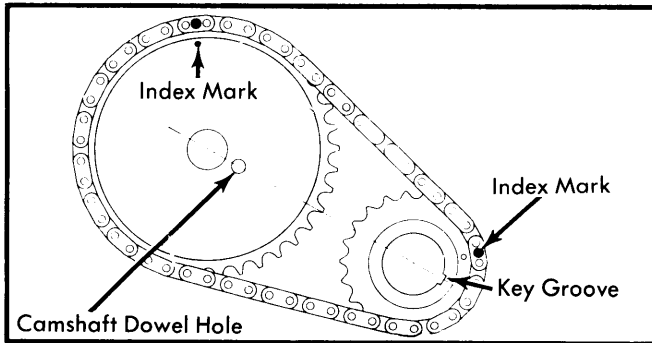
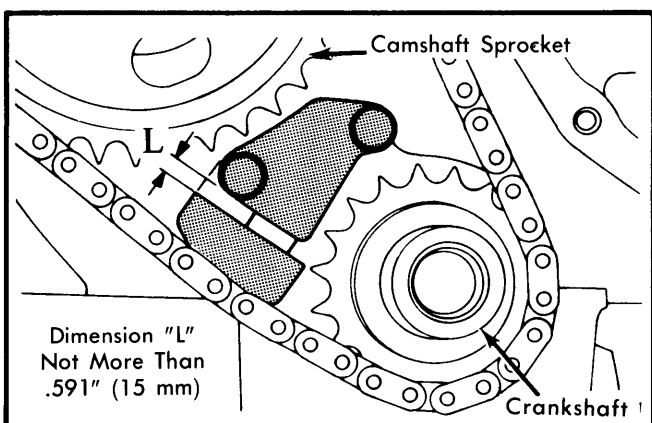

Fig. 8 Timing Chain Alignment Marks for Installation
Fig. 9 Checking Timing Chain Tensioner Projection
2) Install timing chain and camshaft sprocket with markings on chain and sprockets correctly aligned. See Fig. 8. Oil sprocket teeth and chain with engine oil. Install and tighten camshaft sprocket bolt. Install chain tensioner and tighten attaching bolts. Check dimension "L" of tensioner and if over .591" (15 mm), replace chain. See Fig. 9. Install oil thrower in front of camshaft sprocket. Install timing chain cover.